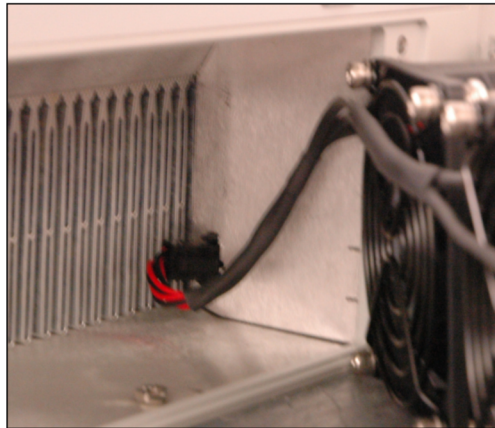

Figure 4: Unplug Fan Power (3RU Chassis shown)
- Unplug the fan power cord from the connector. See Figure 4.